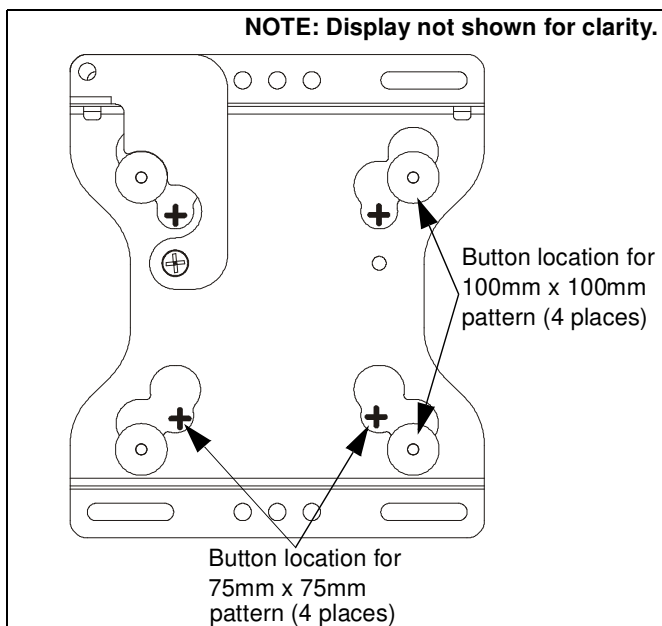

Figure 8
NOTE: Mounting buttons are shown in the 100mm x 100mm pattern. FSR assembly (A) will also accommodate a 75mm x 75mm pattern. (See Figure 8)